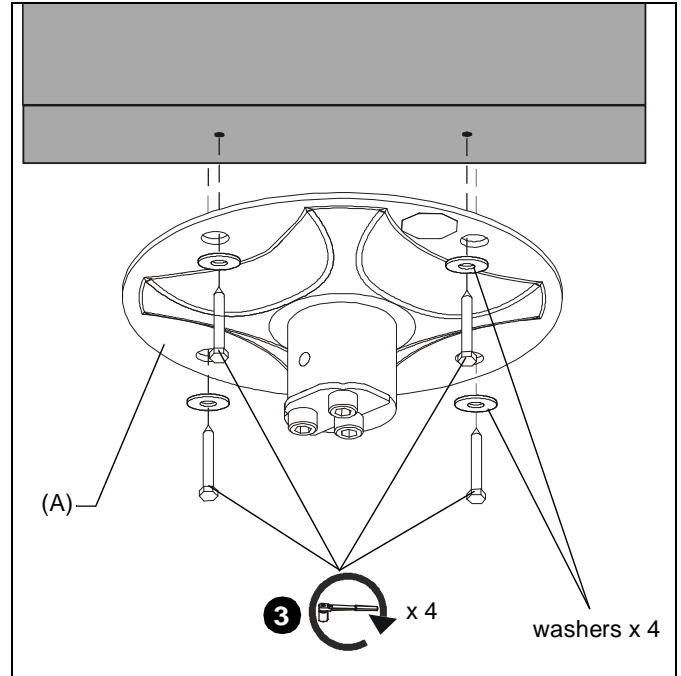
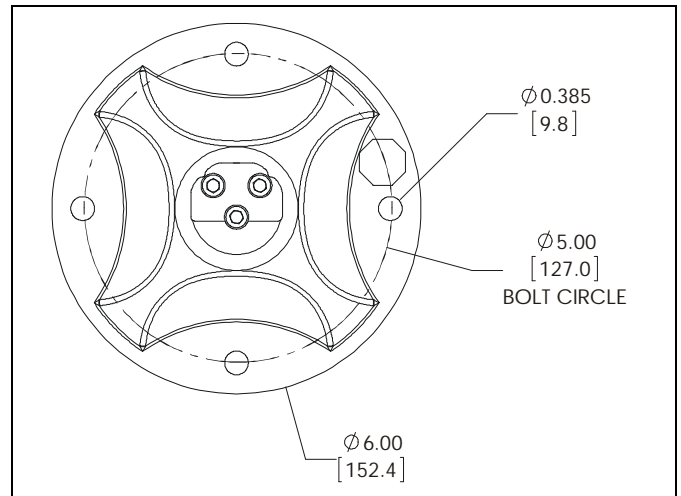

Figure 2
Figure 3
- Install and tighten four 5/16" x 2-3/4" (minimum) lag screws (not included) through CPA115 (A), into wood stud cross bracing. (See Figure 2) (See Figure 3) for dimensions details.
- Secure the threaded rods to the CPA mount with 3/8" jam nuts (not included) and washers (one of each on inside and one of each on outside-not provided). (See Figure 3) for dimensions details.
1. Using ceiling plate (A) as a template, mark locations of four pilot holes on ceiling.
3. Use four UX10 or AF8 anchors (not provided) to secure CPA mount into solid concrete ceiling. (See Figure 3) for dimensions details.